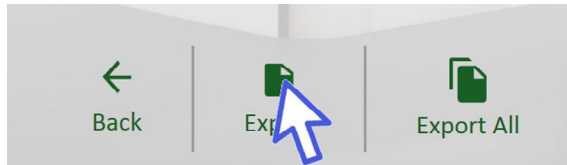

fig. 77
- Select "**Export**" (fig. 77).